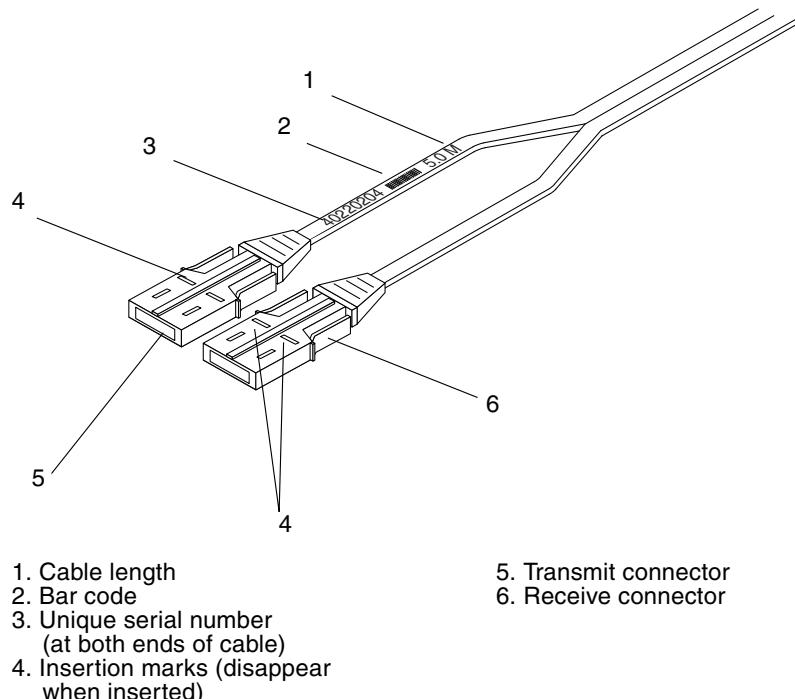

FIGURE 4-7 Sun Fire Link Cable
- Each cable has two plugs at each end, FIGURE 4-7. The white plug is the transmit cable, and the black plug is the receive cable.
- The cable connectors have a ridge on one side of the plug that indicates which side must be facing up when you plug it into the optical module receiver, FIGURE 4-7.